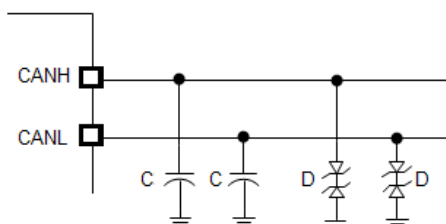
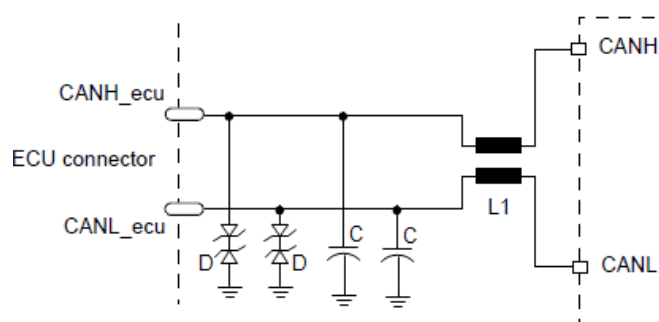

Figure 57. CANH and CANL ESD external protection typical application schematic
Figure 58. CANH and CANL typical application schematic
The MC33903/4/5 implements a highly robust CAN interface which can sustain ESD pulses up to ± 8 kV (Human Body Model) at the CANH and CANL pins. If application requires higher ESD voltage robustness, external protection components such as a transient voltage suppressor (TVS) are required to protect these pins. The MMB27VCLT1 (D) is recommended to achieve better ESD results (see Figure 57). Implementing this TVS will improve ESD performance up to ± 15 kV according to ISO 10605-2008 (ESD powered). Additionally, a 47 pF capacitor (C) should be placed on the CANH and CANL pins for noise immunity, ESD, and to lower noise emissions. Figure 58 shows the recommended circuitry for the CAN transceiver.